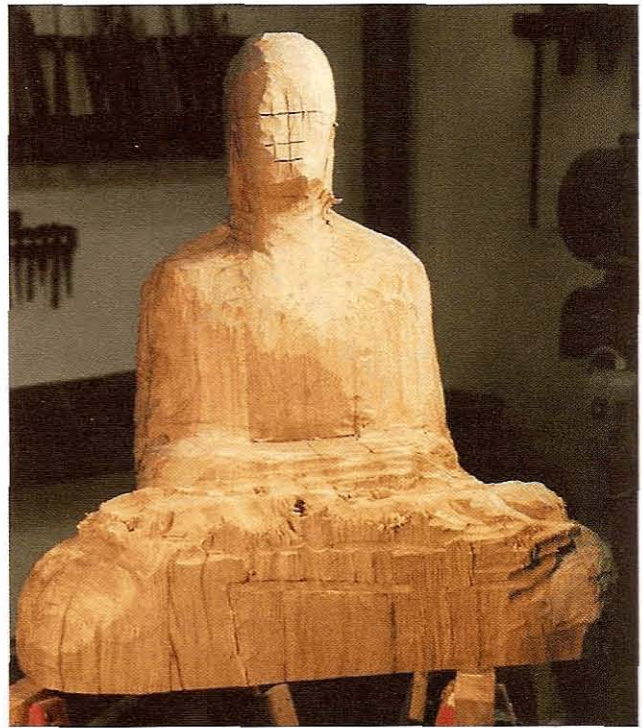

Fig 2.20 The Buddha sculpture, shown complete in Figs 7.14 and 7.15, has here been roughed out by a combination of power disc and gouge
- I find it best to work with the disc a while, then slow down and use gouges and mallet while I re-gather my carving vision; then back to the disc (Fig 2.20).